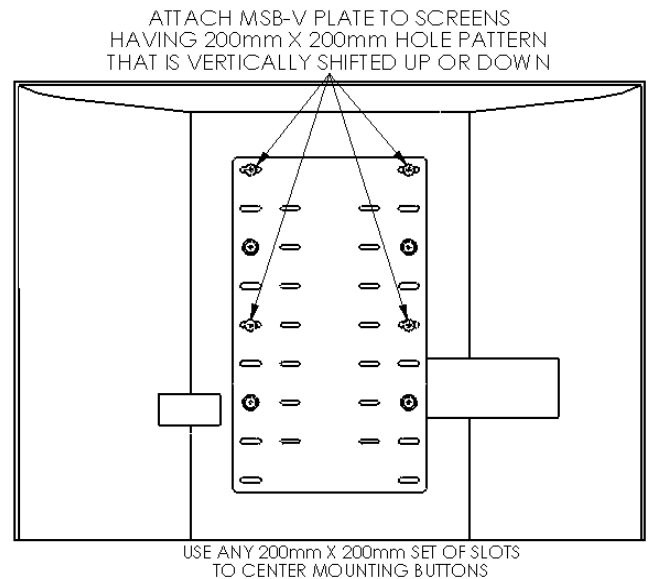

Figure 12. Attach MSB-V to Display with Vertically Shifted Hole Pattern
- If 200mm x 200mm hole pattern is shifted high on the screen (e.g., Samsung LNR-Series), attach the MSB-V (10) vertically with four M5 or M6 screws (Bag B or C) as shown in Figure 12.